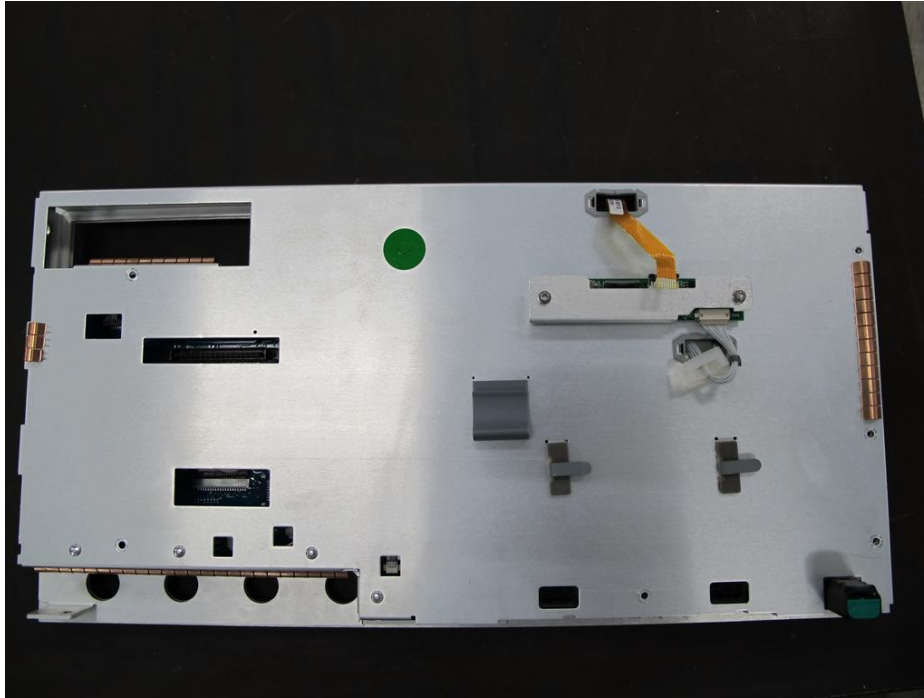

Figure 1-12
10. Figure 1-12 illustrate the final front panel assembly.